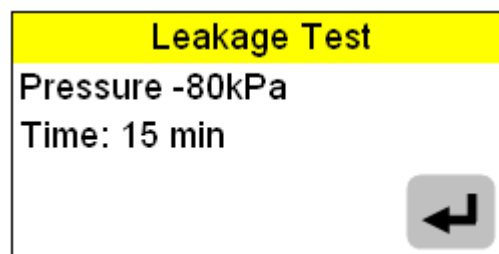

Figure 94
- C. Press  button to confirm the selection of Leakage Test Program, as shown in Figure 94.